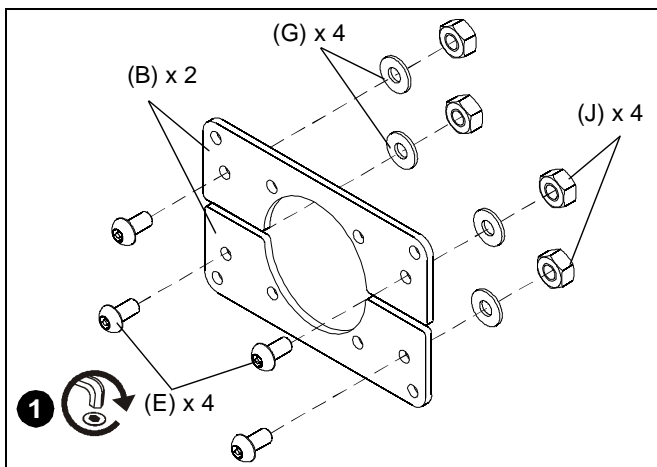

Figure 2
1. **For RPM only:** Prepare two interface brackets (B) using four 1/4-20 x 3/4" buttonhead screws (E), four 1/4" flat washers (G) and four 1/4" hex nuts (J). (See Figure 2)